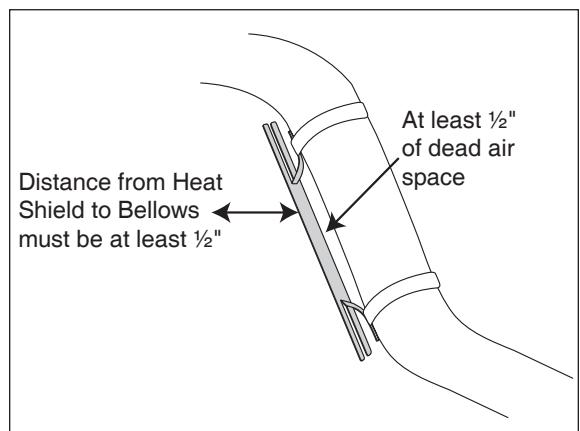

Figure 8
2. Attach the heat shield (S) to the exhaust pipe using the clamps (U) (Figure 8). Bend the heat shield for maximum clearance to the air spring.